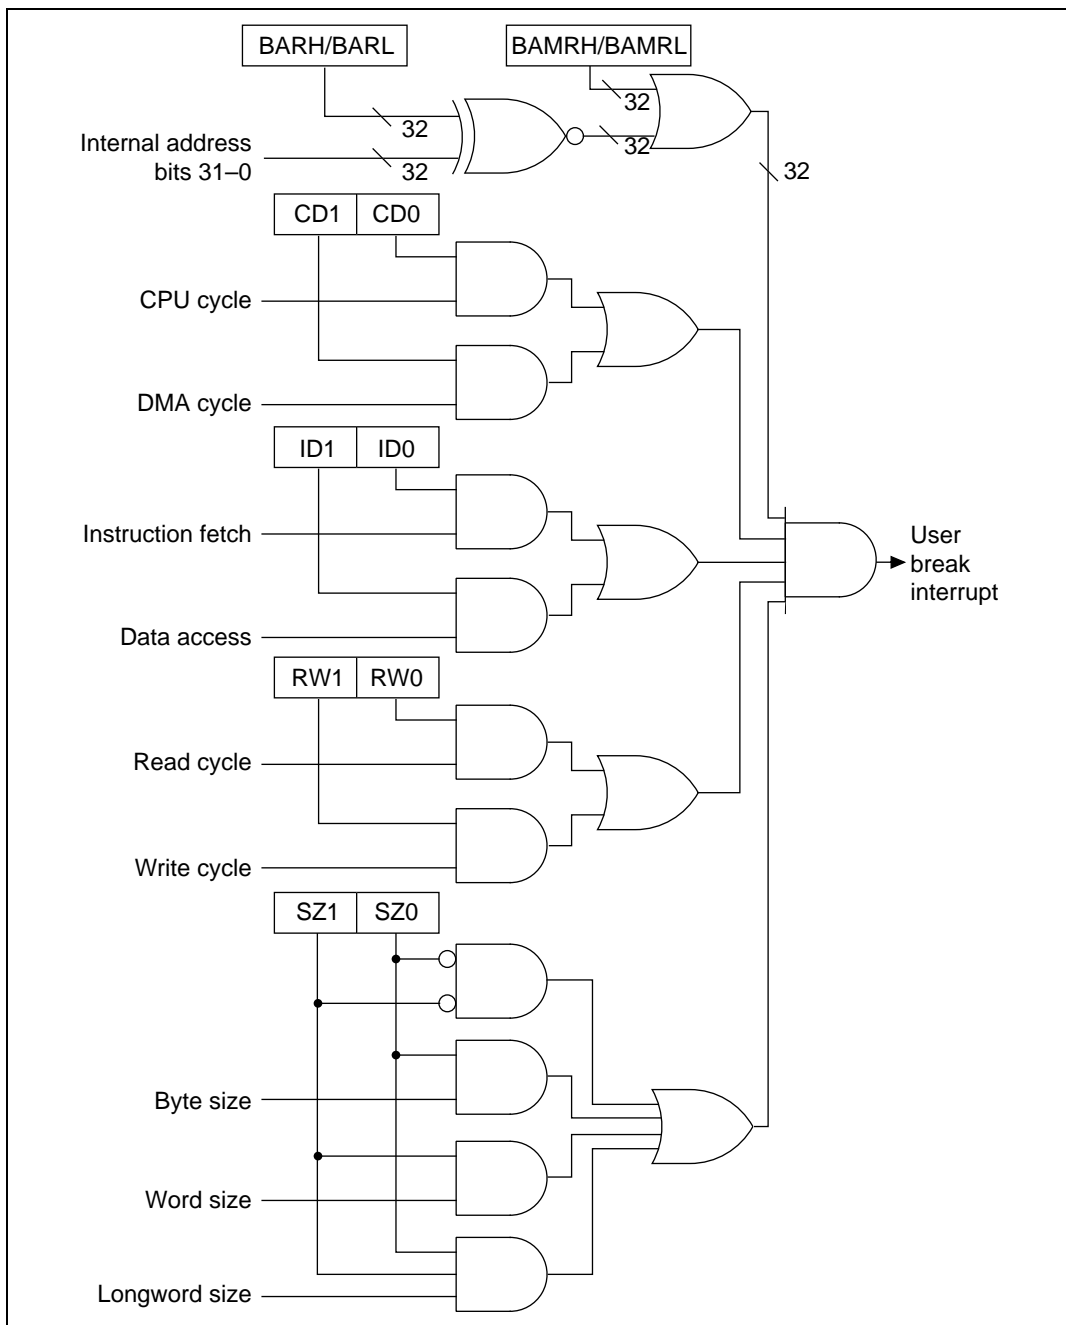

Figure 6.2 Break Condition Logic
2. The UBC checks to see if the set conditions are satisfied, using the system shown in figure 6.2. When the break conditions are satisfied, the UBC sends a user break interrupt request to the interrupt controller.
3. On receiving the user break interrupt request, the interrupt controller checks its priority level. The user break interrupt has priority level 15, so it is accepted only if the interrupt mask level in bits I3–I0 in the status register (SR) is 14 or lower. When the I3–I0 bit level is 15, the user break interrupt cannot be accepted, but is held pending until user break interrupt exception handling is carried out. NMI exception handling sets I3–I0 to level 15, so a user break cannot occur during the NMI handling routine unless the NMI handling routine itself begins by reducing I3–I0 to level 14 or lower. Section 5, Interrupt Controller (INTC), describes the handling of priority levels in greater detail.